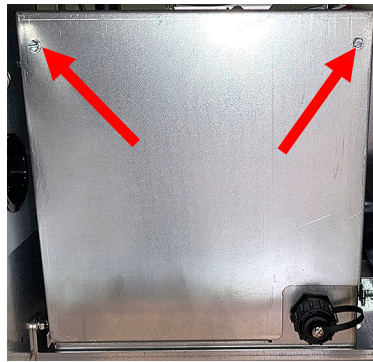

Figure 5
- Remove the FIB box cover by removing the two (2) ¼" screws attaching the cover and lifting on the cover to remove (see Figure 5). This box may vary by date of manufacture.